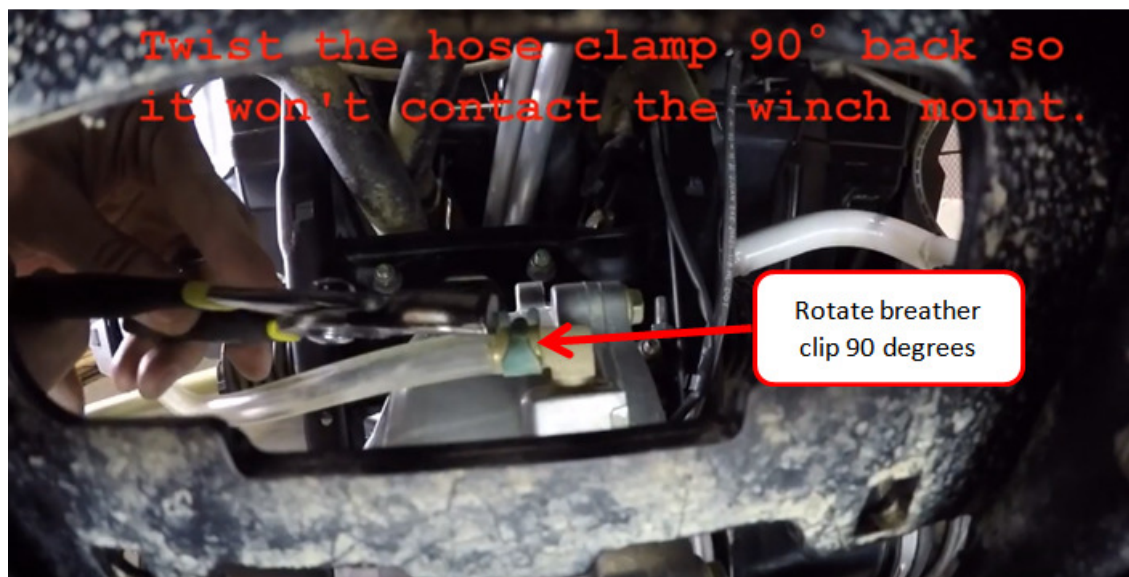

Figure 3
- 4) Rotate the breather hose clip 90 degrees, as shown in Figure 3, so that the cable will not contact the clip later.